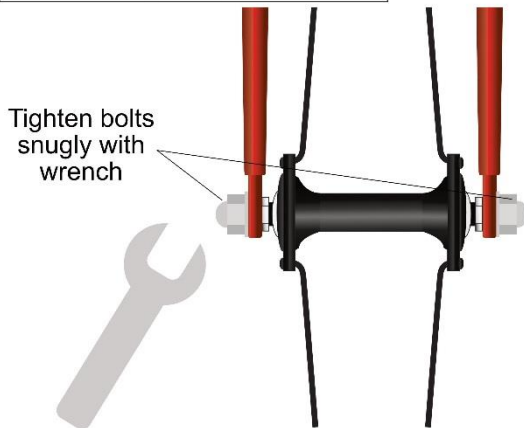

Figure 5 – Fasten Wheel Securely in Fork
- (3) **Fasten wheel securely in fork** (See Figure 5). Tighten the bolts snugly with a wrench.
- vi. Re-tighten the seatpost quick-release, or bolt. For a seatpost binder with a quick-release lever, the mechanism works the same as a wheel quick-release. Adjust the lever tension, and make sure it is in the closed position (see Figure 5 on page 11).